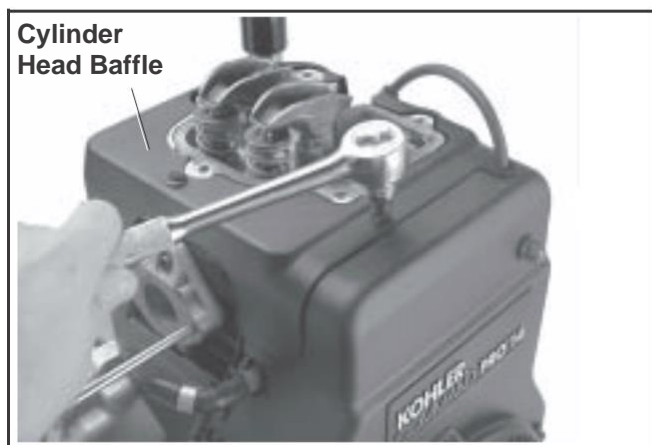

Figure 9-23. Removing Cylinder Head Baffle.
1. Remove the hex flange screws securing the cylinder head baffle to the cylinder head. See Figure 9-23. Remove the baffle.